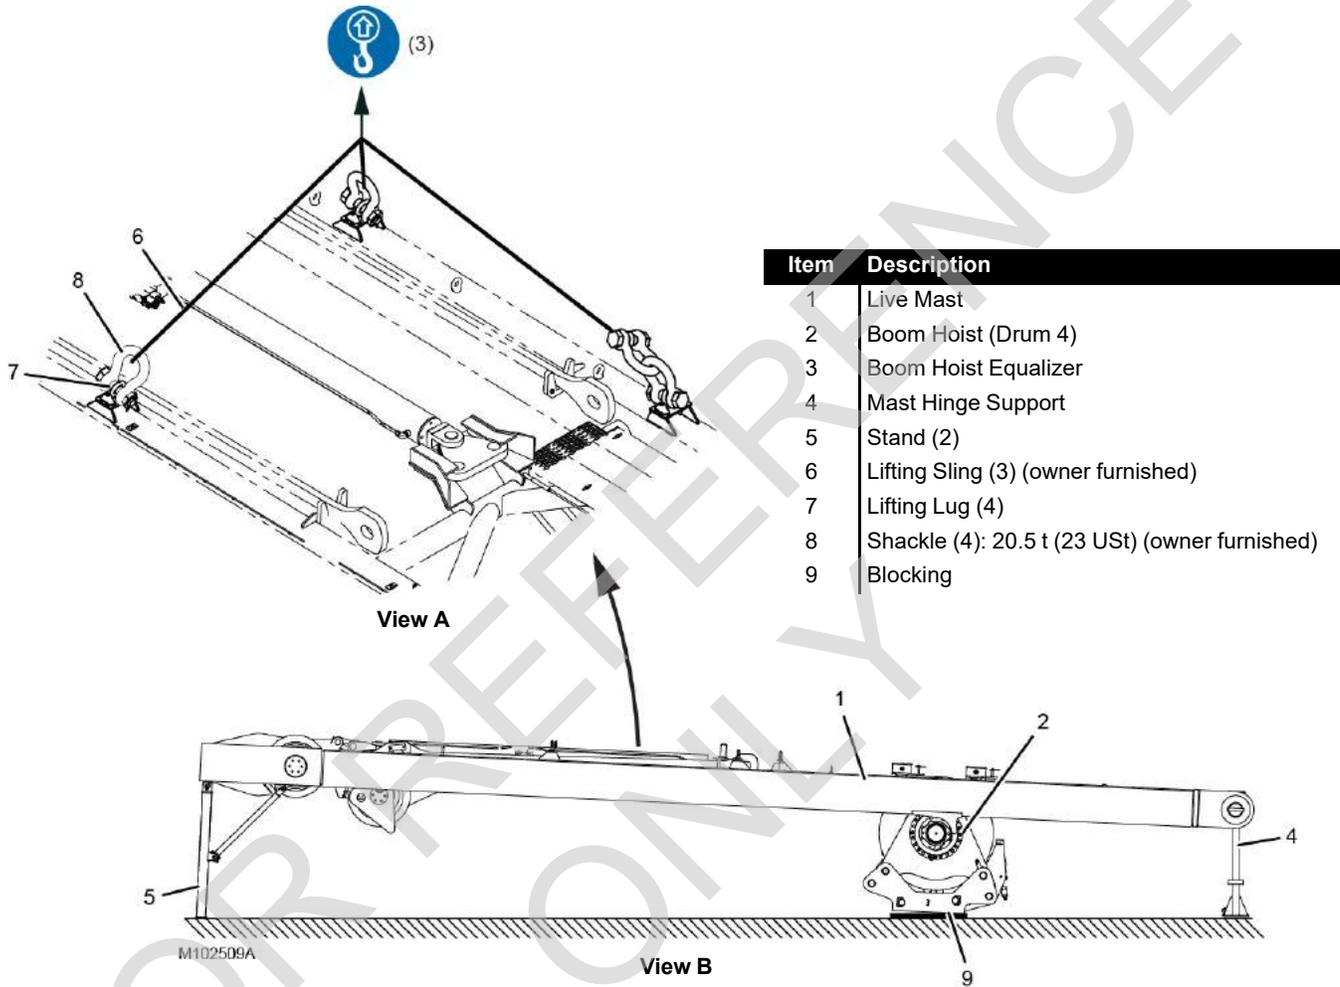

Figure 4-21
See Figure 4-21 for the following procedure.
An assist crane is required to handle, install, and remove the live mast. The assist crane must meet the specifications given in Figure 4-21.
- Lift only with the specified rigging at the locations shown in Figure 4-21.